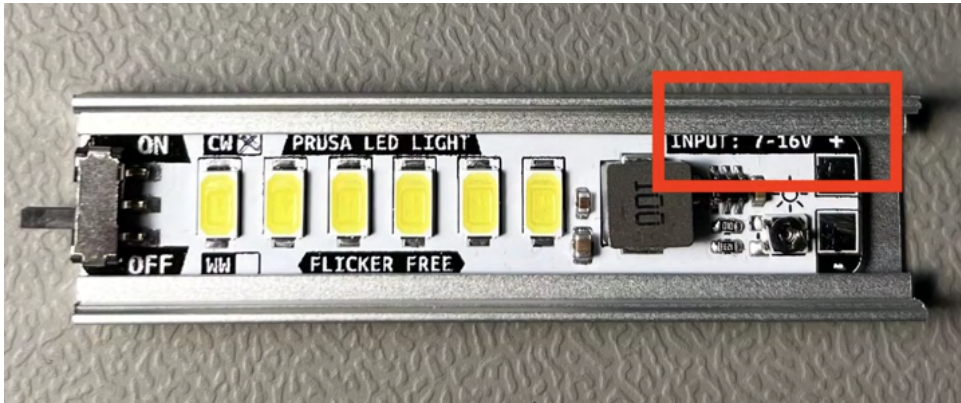

Figure 18: Version 1 of the LED light capable of 7-16V input.
**IMPORTANT** before proceeding further: If you have the initial version of the LED light (identifiable by checking the label inside the diffuser, indicating "INPUT: 7-16V" as illustrated in Figure 18), **DO NOT** connect it directly to the upgrade board. The same precaution applies if a 12V fan is currently connected to the fan connector on the upgrade board. Failure to disconnect these components may result in damage to both the components and the PSU. To still use them without causing harm, connect them to the 12V from the PSU using alternative methods such as splicing the cables or soldering them to the 12V input of the boost converter.